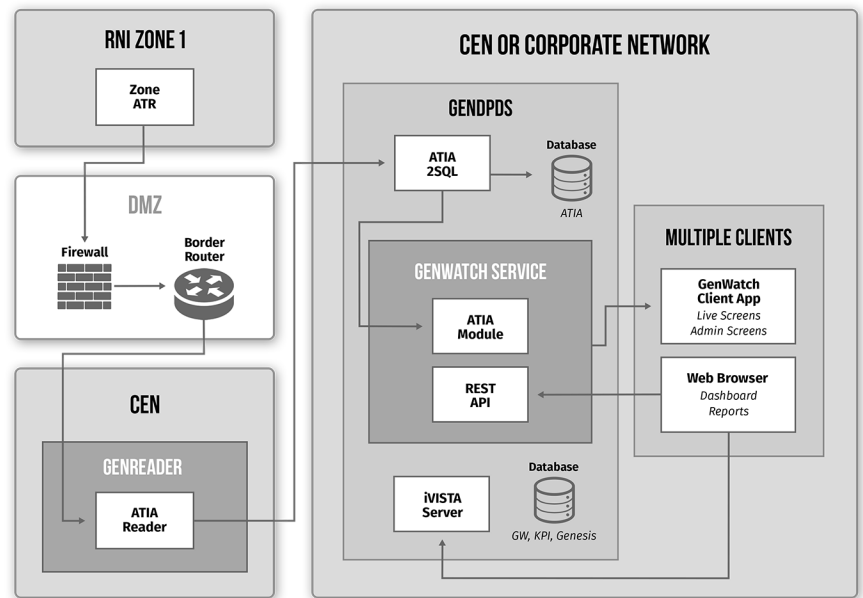

Figure 1: Basic Single Zone System Diagram
Figure 1 shows what a basic single zone system diagram would look like. As radio traffic occurs, the Motorola Zone Controller's ATIA port sends the packets of data about each radio event to a GenWatch Reader (Reader). The Reader listens for that data via UDP and passes it to the GenWatch Data Processor (DP) as TCP/IP. The DP then takes the packets, parses them out, and sends them to the GenWatch Data Server (DS), which writes the information into Microsoft SQL datatables. The DP also provides the data feed to the GenWatch Host (Host) for the Module screens and iVISTA. All GenWatch Clients connect to the Host. If connection issues arise between the Reader and the DP, the Reader will buffer for about 30 days to avoid losing any data.